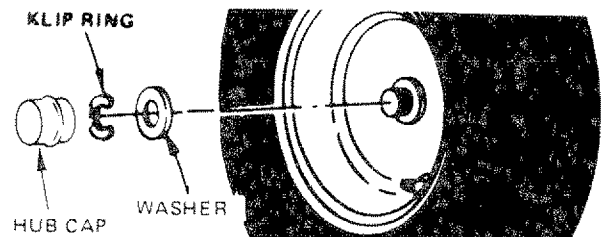

FIGURE 44
- Removing front wheel for tire repair (Fig. 44):